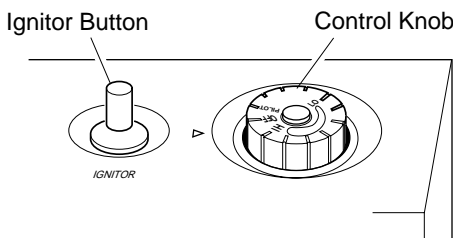

Figure 16 - Control Knob In The OFF Position
4. Wait five (5) minutes to clear out any gas. Then smell for gas, including near the floor. If you smell gas, STOP! Follow "B" in the safety information in column 3, page 11. If you don't smell gas, go to the next step.
5. Turn control knob counterclockwise to the PILOT position. Press in control knob for five (5) seconds (see Figure 16).